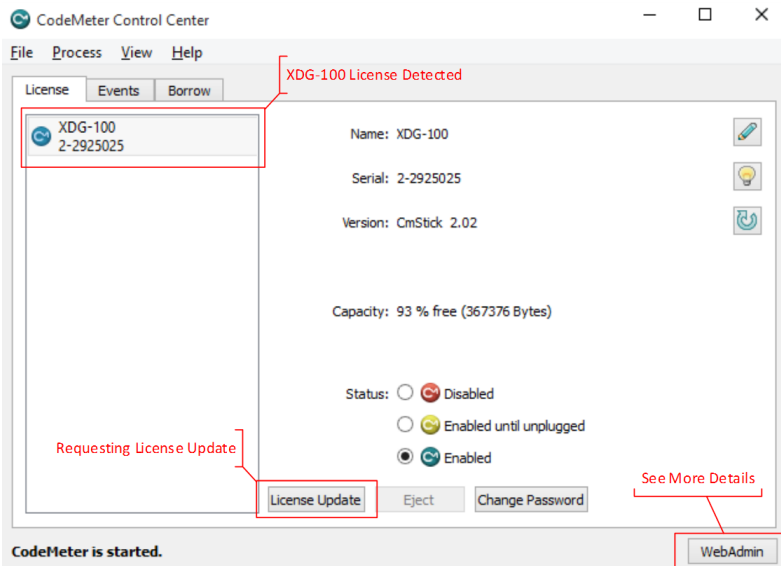

Figure 2.5. CodeMeter Control Center overview for XDG-100 license.
3. Find the XDG-100 license listed in CodeMeter Control Center (See *Figure 2.5, "CodeMeter Control Center overview for XDG-100 license."*.)
3. Find the XDG-100 license listed in CodeMeter Control Center (See Figure 2.5, “CodeMeter Control Center overview for XDG-100 license.”.)